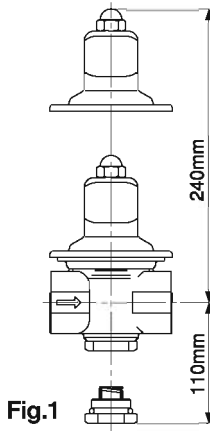

Fig.1
- (6) When installing a quick opening/closing device for example a solenoid valve, the distance between the pressure reducing valve must be at least 3 m.
- (7) When two stage pressure reduction is employed, the distance between the two pressure reducing valves must be 3 m or more.
- (8) Before installing, verify the location of the inlet and the outlet. The arrow on the pressure reducing valve shows the direction of fluid. Observe that the arrow coincides with direction of fluid.
- (9) Piping to the pressure reducing valve must be so connected that excessive load, deflection and vibrations will not be applied to the valve.
- (10) Secure the necessary maintenance space at the installation site of the pressure reducing valve.
- ※ Refer to Fig.1 for dimensions of the maintenance space. If the space is smaller than these values, the valve cannot be disassembled for maintenance.
- (11) The set pressure of the safety valve must be higher than that of the pressure reducing valve.
- (12) Do not freeze the pressure reducing valve.
- (13) Do not allow pipe adhesive materials to leak into the pressure reducing valve.